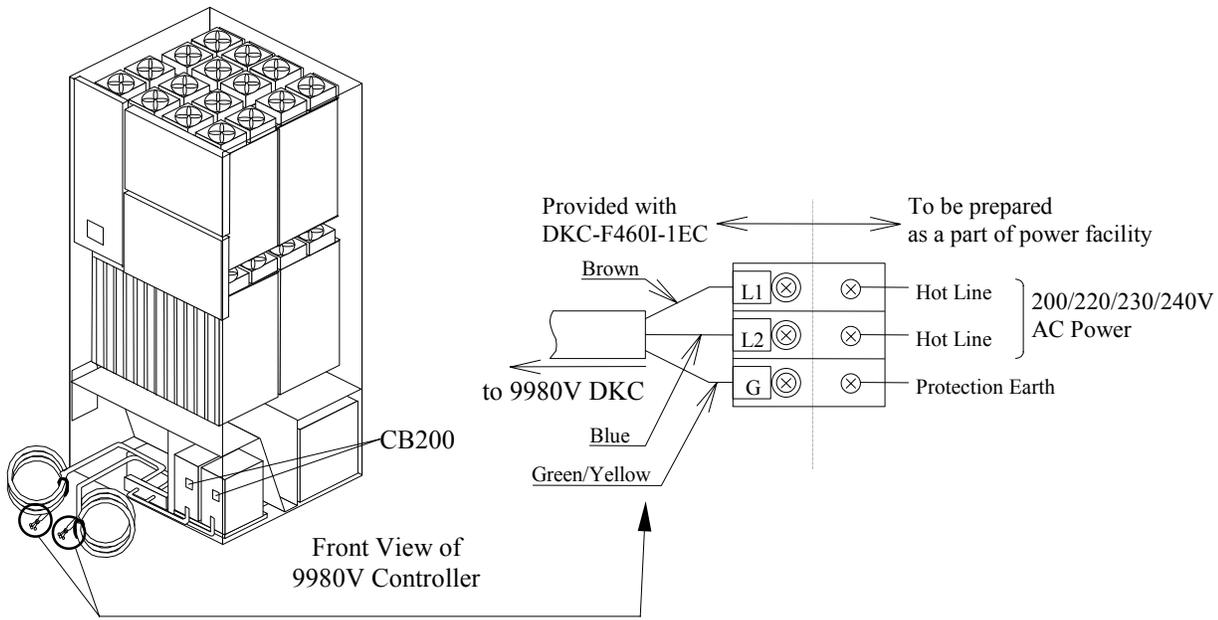

Figure 5.15 Power Plugs for Single-Phase 9980V Controller (Europe)
- Figure 5.15 illustrates the power plugs for a single-phase 9980V controller (Europe).